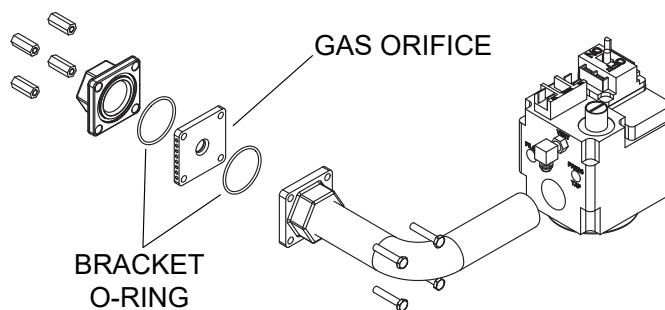

Figure 65. Orifice Location
4. Locate and remove the four (4) bolts & nuts holding the gas orifice in place. See Figure 65.